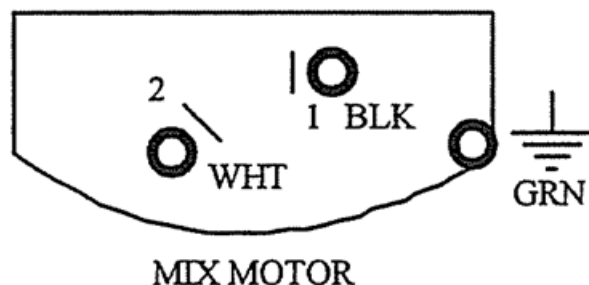

Figure 9
- 2.2 While still in Recirculate Mode, measure the AC voltage between pins 1 and 2 (white and black wires) at the Mixer Motor. *See Figure 9.* Is there 120 VAC?